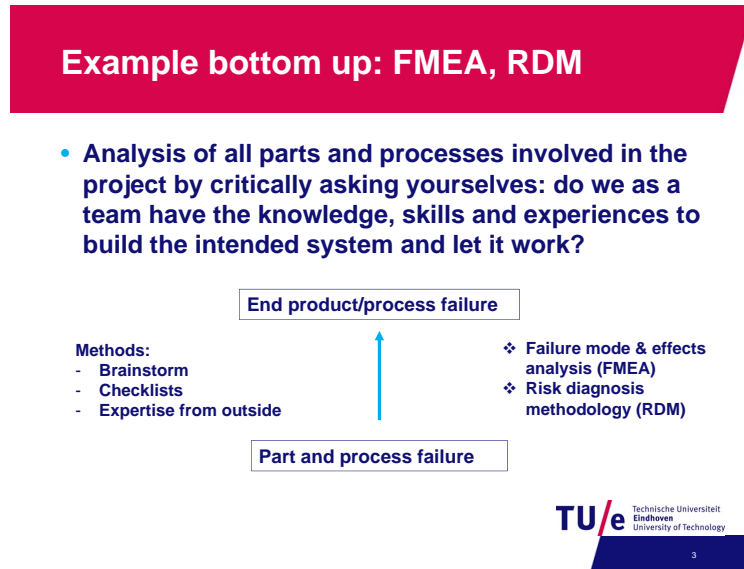

Figure 3.4: Bottom up procedure: Failure Mode and Effect Analysis (FMEA) and Risk Diagnosing Methodology (RDM). (1ZV30)
2. Risk identification: use a methodical approach and use it systematically (e.g. FMEA, FTA or RDM). See Figures 3.4 and 3.5, taken from TU/e course 1ZV30, Product Innovation Processes